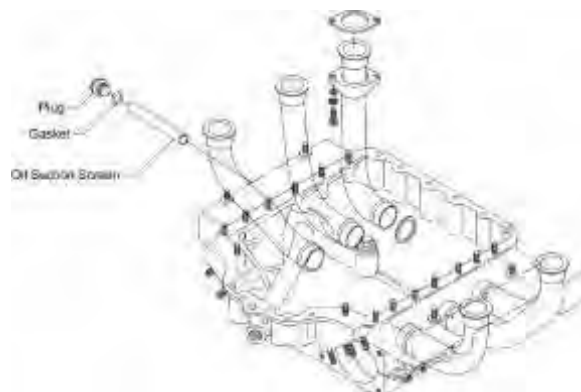

Figure 3
- I. Safety cable/wire the oil sump drain plugs (Figure 2), suction screen plug (Figure 3), and oil filter (if applicable) in accordance with the standard practices per the latest revision of AC43.13-1B or the latest revision of Service Instruction No. SI-1566.
NOTICE: On the TEO-540-C1A (Figure 3) engines there is an oil suction screen in the oil sump. Clean the oil suction screen and replace the oil filter after every 50 hours of engine operation, with each oil change (unless more frequent oil changes are necessary).
- A. Remove and discard the safety/cable wire/cable from the suction screen plug (Figure 3).and oil drain plugs (Figure 2) on the oil sump
- F. Before cleaning the oil suction screen (Figures 3 and 4), examine the oil suction screen for:
- (1) Deformation or openings in the mesh.
- (2) Metal particles, shavings or flakes trapped in the oil suction screen. Refer to the sections: "Identification of Metallic Solids After Oil Servicing" and "Visual Inspection of the Oil Filter Element and Oil Suction Screen" in this chapter.